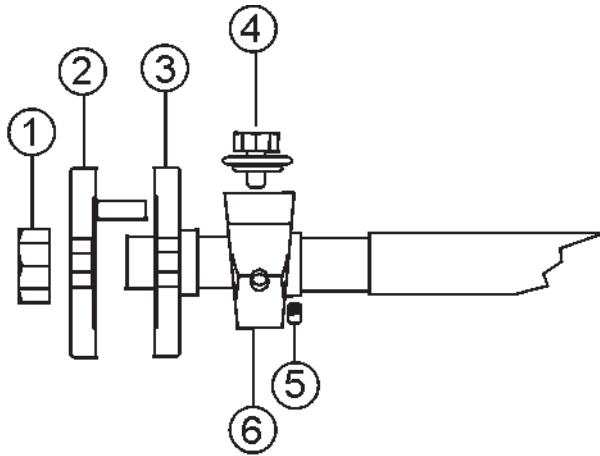
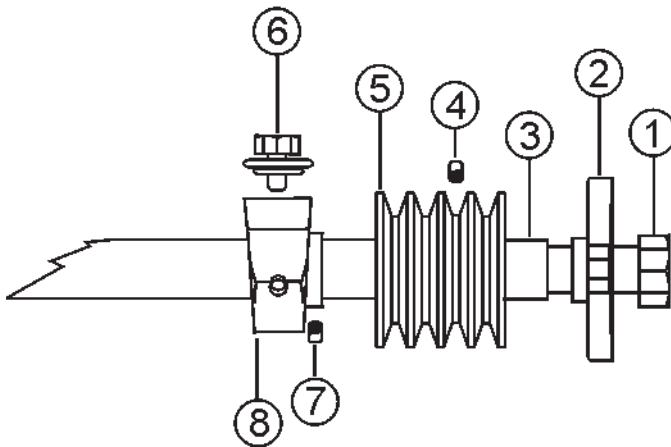

Figure 50. Blade Side Bearing (Right Side)
Figure 51. Pulley Side Bearing (Left Side)
The SP2 slab saw is supported by "tapped base lock collar (w/ set screw)" self-aligning **Blade Shaft Bearings** (Figures 51 and 52). These heavy duty bearings support the 1-1/4 blade shaft, and have grease (zerk) points conveniently located for service.
Reference Figure 50 & Figure 51 for steps 4-9
4. Remove **Blade Hex Nuts** (Figures 50 & 51, item 1) and **Outside/Inside Blade Flanges** (Figures 50, item 2 & 3)
5. Loosen **set screws** (Figure 51, item 4) and slide **Pulley** (Figure 51, item 5) off the Blade Shaft. Loosen Bearing set screw, remove **Bearing Bolt** (Figure 51, item 6) and slide the **Blade Shaft Bearing** (Figure 51, item 8) off the blade shaft.
6. Loosen **set screws** (Figure 50, item 5), remove **Bearing Bolt** (Figure 50, item 4) and slide the **Blade Shaft Bearing** (Figure 50, item 6) off the blade shaft.